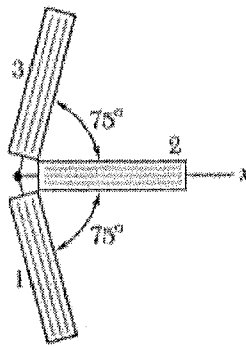

Fig.Q5
A strain gauge rosette has been attached on a surface of a certain machine element as shown in Fig. Q5. The measured strains are:
- a) Write the three equations for ϵ_1 , ϵ_2 , and ϵ_3 for the above system shown in Fig.Q5 in terms of strains in the direction of x and y (ϵ_x , and ϵ_y). (06 marks)